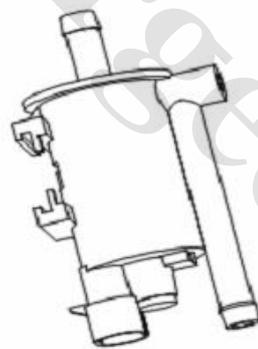

Fig. 1-19
11. Canister control valve (Fig. 1-19)